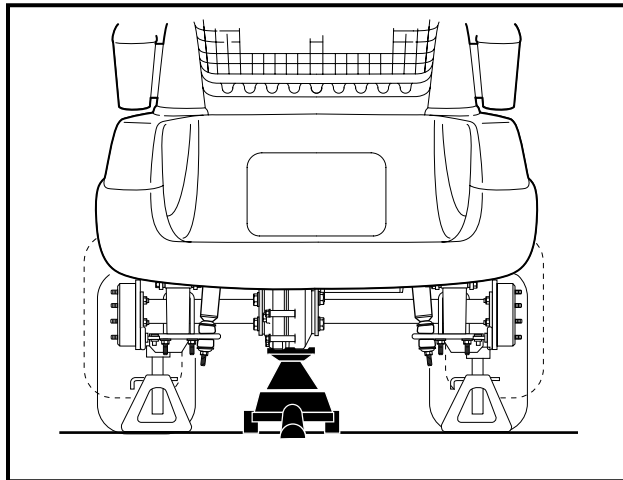
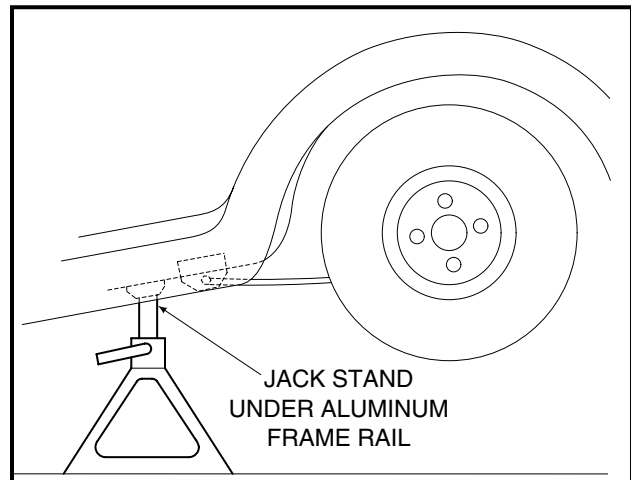

Figure 15-2 Lift Vehicle with Floor Jack
Figure 15-3 Vehicle Supported on Jack Stands
4. Place floor jack under transaxle and raise rear of vehicle (**Figure 15-2, Page 15-3**) then place jack stands under frame crossmember between the spring mount and the side stringer, just forward of each rear wheel. Lower the vehicle to let the jack stands support the vehicle (**Figure 15-3, Page 15-3**). See following **WARNING**.